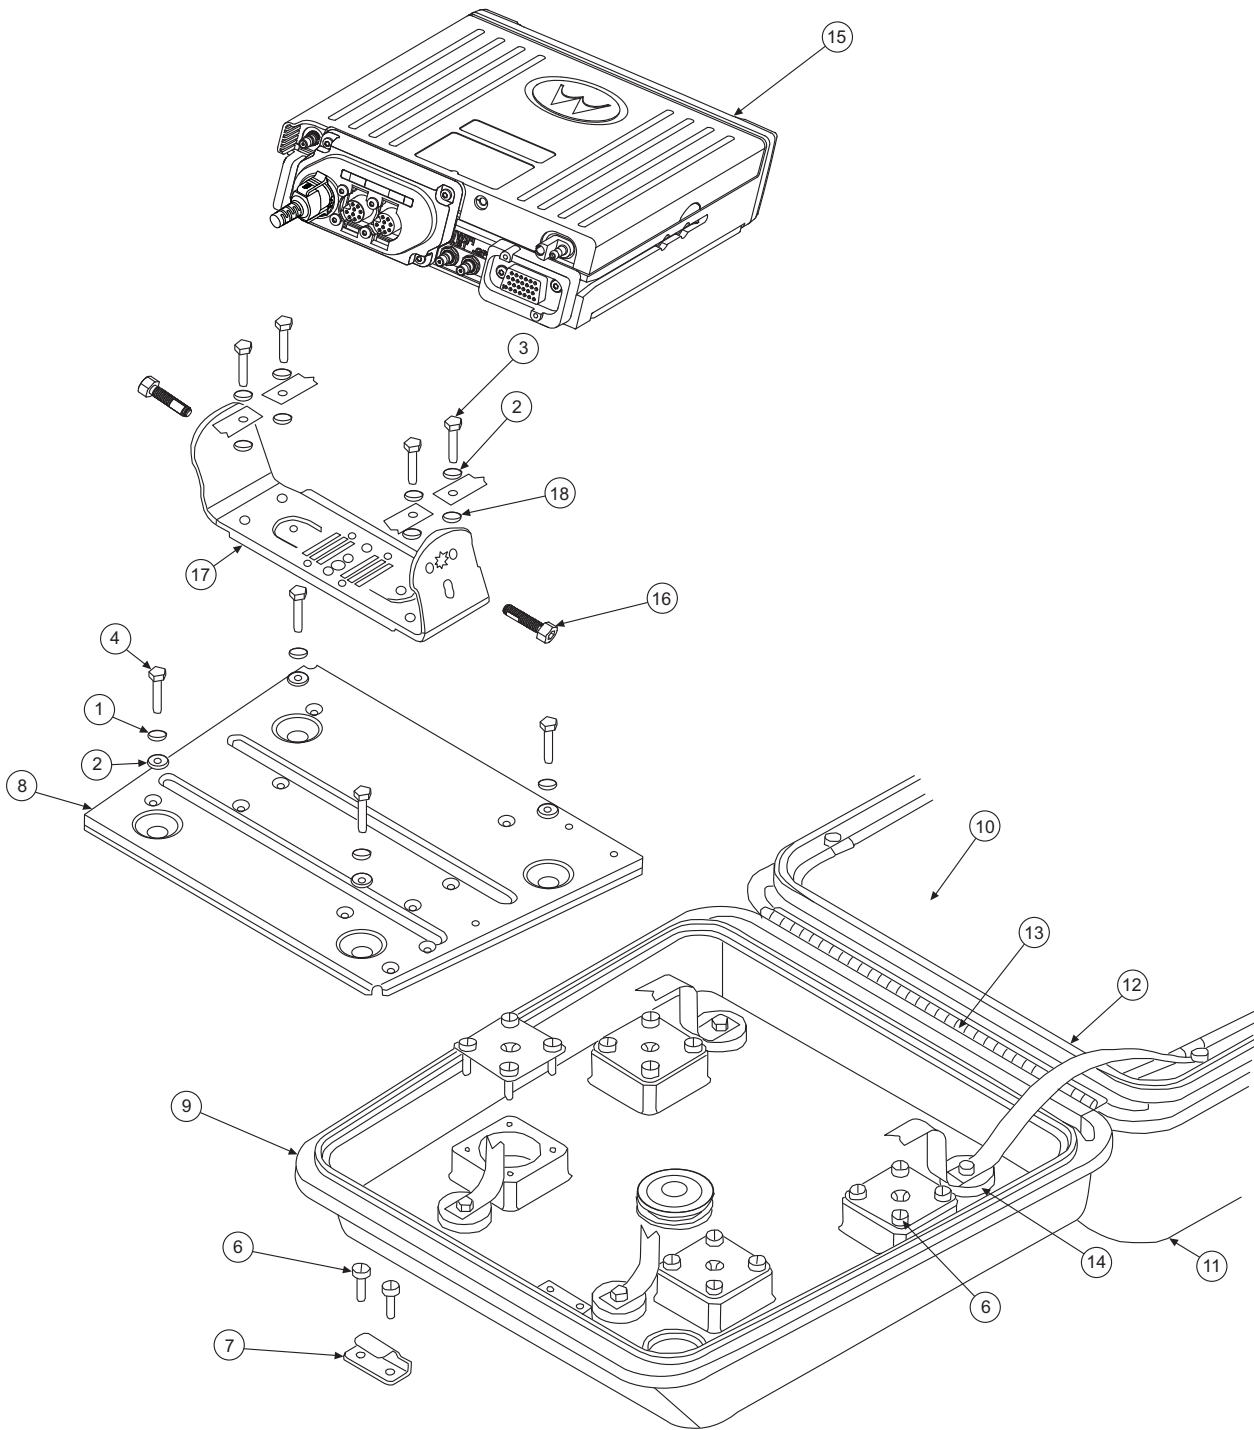

Figure 5-20. Installing the Transceiver
2. The weather-resistant enclosure is mounted to the universal mounting plate using shock mounts. Assemble the shock-mount components exactly as shown in Figure 5-18. Be sure to install ground straps between the shock-mount and the transceiver trunnion mount, and install one 7-1/2-inch ground strap between the right rear mount and the enclosure lid antenna ground plane 0 (shown in Figure 5-18 and in Figure 5-20).
6. Figure 5-20 is an exploded view of the enclosure; it shows details that helps to understand how the enclosure is mounted. After the enclosure is completely mounted, check for proper ground connection—continuity between the antenna ground plane and the motorcycle frame.
Install the transceiver in the weather-resistant enclosure as follows (see Figure 5-20).
1. Install the mounting trunnion and loose ends of the four ground straps to the radio-mounting plate, using four screws, flat washers, and external-tooth lock washers (see Figure 5-20). The ground straps must be sandwiched between the flat washers and lock washers. The lock washer must be against the trunnion. The flat washer must be under the screw head.